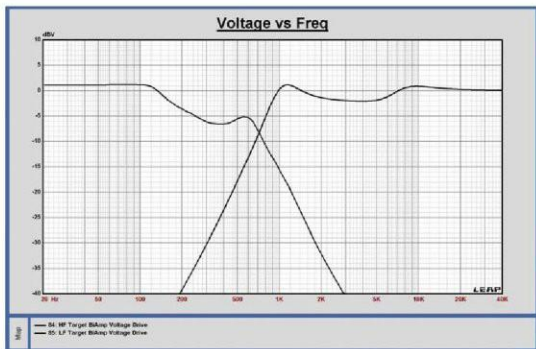

Figure 12 – Low pass and high pass curves for required for the use of an external dividing network to Bi-Amplify the K2.S9900 system.
- Magnesium has very low density, slightly lower than even that of Beryllium. With such a low density, the thickness of the Magnesium Alloy diaphragm could be greatly increased while still maintaining an equivalent diaphragm mass of approximately 3.4 grams, similar to previous designs using Aluminum and Titanium. Based on this, the new Magnesium Alloy diaphragm was increased to 130 micron, about 1.7 times thicker than JBL's standard 76 micron thick Aluminum diaphragm. When compared to the Titanium diaphragm used in JBL's original K2 S9500 and M9500 systems, this new Magnesium Alloy diaphragm is 2.5 times thicker. This is beneficial because a thicker diaphragm creates a much stiffer diaphragm, which pushes piston behavior to higher frequencies than current Aluminum or Titanium diaphragms (given the same moving mass). Better piston behavior means less diaphragm modal breakup at the critical mid-band frequencies and so the upper frequency response will be smoother with minimal distortion spikes, (see *Figure 12*). The effects of this will be less distortion and improved and extended frequency response.
Bi-Amp - It is possible to operate the system using an external low level dividing. In this mode, the Low and High Frequency crossovers are totally bypassed. Level adjustment and internal equalization remain on the High Frequency section. Figure 12 shows the low frequency and high frequency voltage drive functions necessary to properly Bi-Amplify a S9900 system using an external dividing network and two amplifiers channels. Neither the low pass nor high pass drive is a standard Butterworth alignment or, for that matter, any standard alignment. The provided drive curves were derived using the internal passive network and resulting acoustic low pass and high pass shapes. Duplicating these shapes will result in the same frequency response and directivity pattern as a passive S9900. The curves shown will be extremely difficult to replicate with standard external crossovers so JBL recommends against bi-amp operation unless the user is very familiar with electronic crossover/EQ equipment.